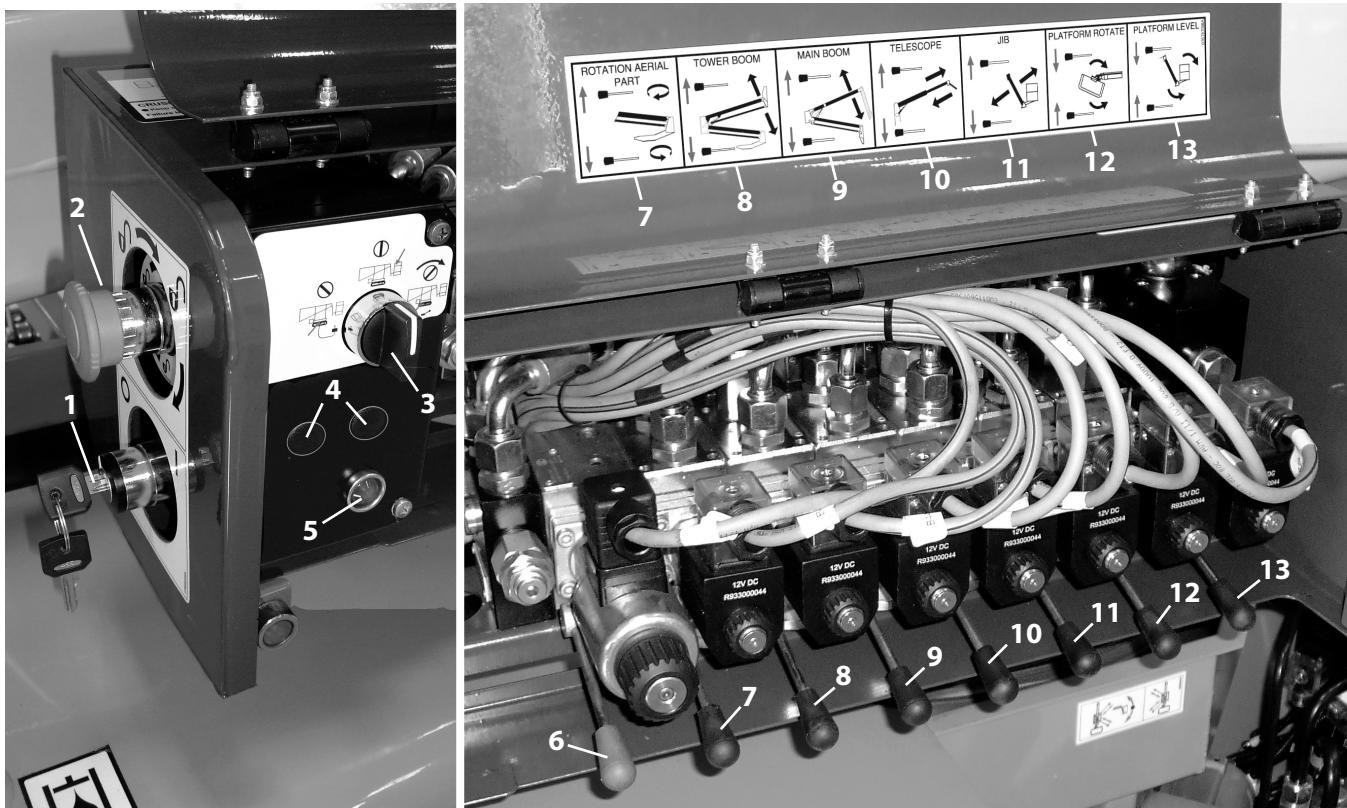

Figure 5-2. Ground Control Station
(See Figure 5-2.)
NOTE: *The proportional valve adjusts speed of the boom movements (pressure flow) when using boom control valves at the valve distributor on the ground control station in Figure 5-2. Without electrical power you must manually open this valve with the adjustment knob before operating the boom controls.*
5. At the ground control valve distributor operate the boom control valves as needed. (*see Figure 5-2.*)
- fully retract main boom (*item 10, Figure 5-2.*)
- fully lower jib (*item 11, Figure 5-2.*)
- fully lower tower boom (*item 8, Figure 5-2.*)
- fully lower main boom (*item 9, Figure 5-2.*)
2. Lift the function enable lever UP and hold (item 6 - Figure 5-2.), While pumping the hand pump (item 4) and activating the swing control lever (item 7 - Figure 5-2.) in the desired direction of travel, until the turntable is aligned with the chassis.
Lift the function enable lever UP and hold (*item 6 - Figure 5-2.*). While pumping the hand pump, activate telescope function lever (*Item 7, Figure 5-2.*) in the appropriate direction to retract the main boom.
Lift the function enable lever UP and hold (*item 6 - Figure 5-2.*), while pumping the handpump, activate the jib lift function lever (*item 8, Figure 5-2.*) in the appropriate direction to lower the jib.
Lift the function enable lever UP and hold (*item 6 - Figure 5-2.*), while pumping the handpump, activate the tower boom lift function lever (*item 5, Figure 5-2.*) in the appropriate direction to lower the tower boom.
Lift the function enable lever UP and hold (*item 6 - Figure 5-2.*), while pumping the handpump, activate the main boom lift function lever (*item 6, Figure 5-2.*) in the appropriate direction to lower the main boom.
Lift the function enable lever UP and hold (*item 6 - Figure 5-2.*), while pumping the handpump, activate the appropriate platform rotate function lever (*item 12, Figure 5-2.*) to rotate the platform.
Lift the function enable lever UP and hold (*item 6 - Figure 5-2.*), while pumping the handpump, activate the appropriate platform level function lever (*item 13, Figure 5-2.*) to level the platform.